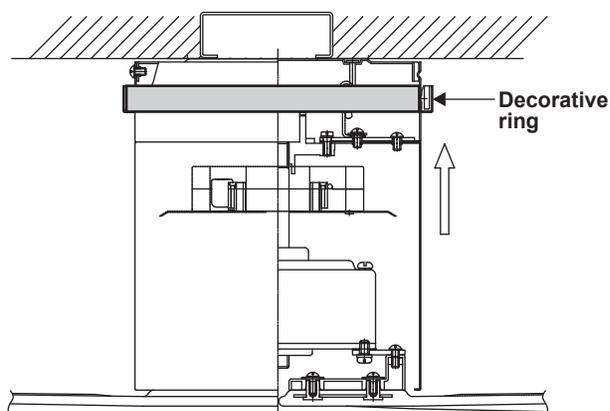

Figure 12
Step 2. Raise up decorative ring and line up the four tabs with the four grooves on the motor housing. Once lined up, slide the decorative ring up to the motor housing until snug. (Fig. 12)